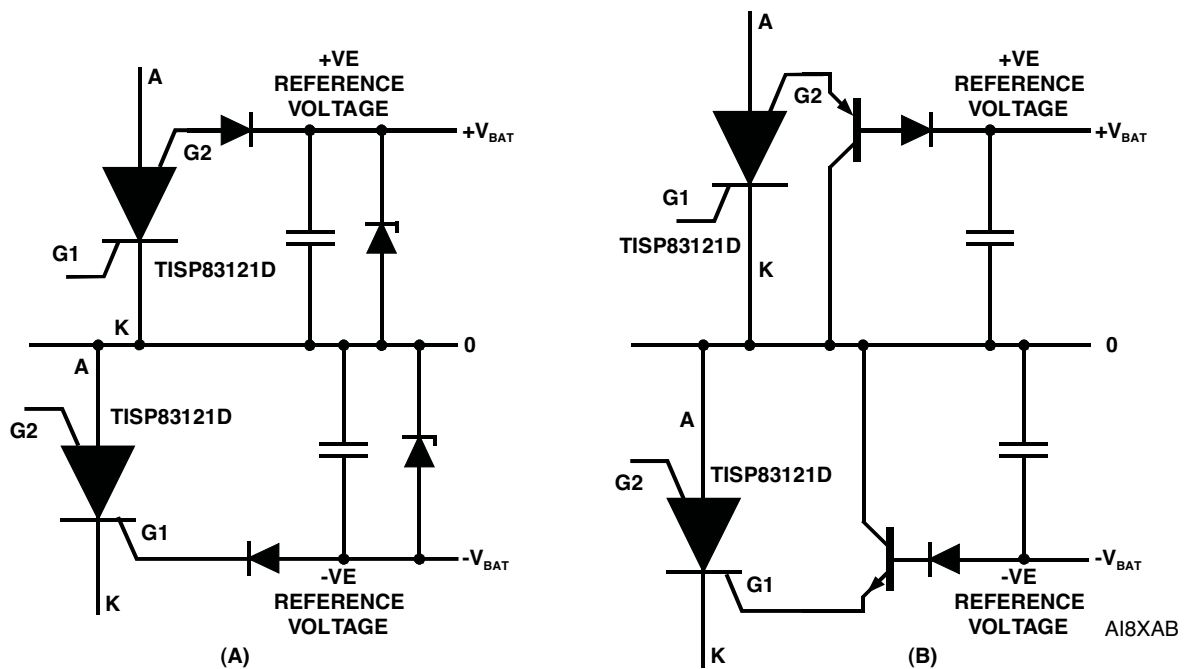

Figure 3. Reference Voltage Control by (A) Breakdown Diodes or (B) by Transistor Buffers
In many designs, the battery supply voltages are generated by switching mode power supplies. This type of power supply cannot be charged like a battery. Feeding a charging current to a switching mode power supply will usually cause the supply to stop switching and the voltage to rise. The gate current of the TISP83121D is a charging current for the supply. To avoid the supply voltage from rising and damaging the connected SLICs, an avalanche diode voltage clamp can be connected across the supply (Figure 3. (A)).
Another approach is to reduce the gate charging current for the supply by a transistor buffer (Figure 3. (B)). If the transistor gain was 50, a 200 mA gate current would be reduced to a supply charging current of  $200/50 = 4$  mA. In both cases, the dissipation in the control devices can be substantial and power capability needs to be taken into account in device selection.